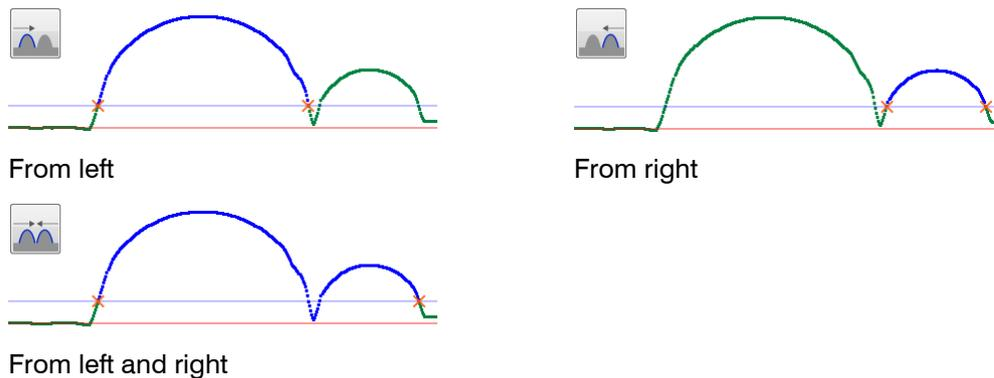

Fig. 6.23: Search direction
- Define the minimum width (euclidean) for the seam and the search direction (see Fig. 6.23) for determining the seam (see below, area "3").
- **Search direction:** Define the search direction for detecting the seam (see Fig. 6.23):
- Define the minimum width (euclidean) for the groove and the search direction (see Fig. 6.23) for determining the groove (see below, area "3").
- **Search direction:** Define the search direction for detecting the groove (see Fig. 6.23):